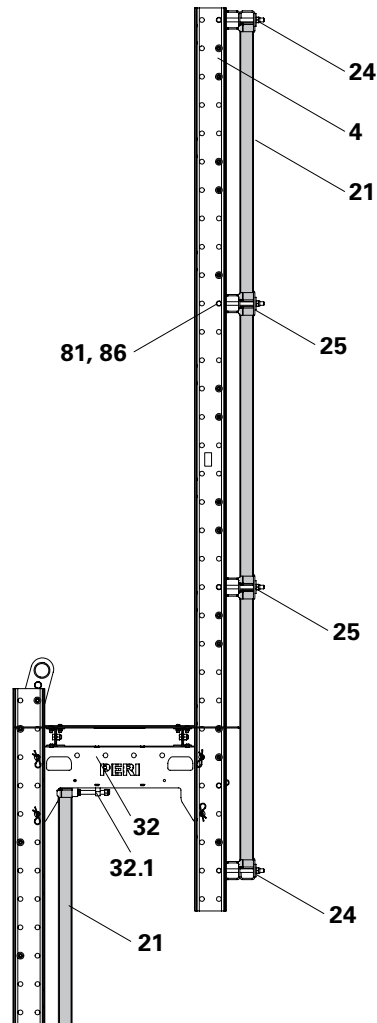

Fig. B2.18
Fix Screen Adapter Single LPS (24) and Screen Adapter Double LPS (25) to the enclosure post or Climbing Rail using Fitting Pins (81) and Cotter Pins 4/1 (86). (Fig. B2.18)
Thread the screen elements (21) on to the Platform Cantilever Beam (32) and secure with adjusting bolt (32.1); see Section "Assembly of the Screen Elements and Telescopic Screens" on Page 78. (Fig. B2.18)